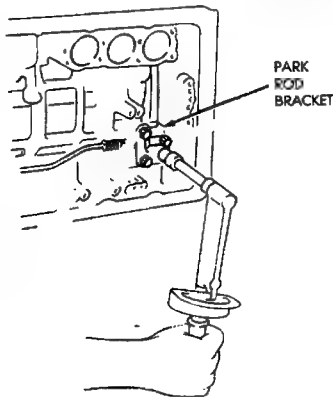
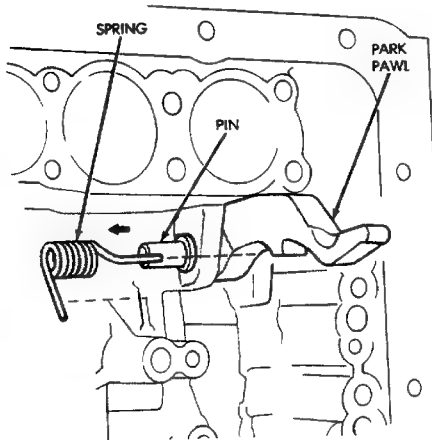

Fig. 36 Removing/Installing Park Rod Bracket
Fig. 38 Removing/Installing Park Pawl-Pin-Spring
- (1) Remove valve body as outlined in this section.
- (2) Remove bolts attaching park rod bracket to case (Fig. 36).
- (5) Remove park pawl, pin and spring (Fig. 38).
- (6) Examine park rod, pawl, pin and spring. Replace any component that is worn or damaged.
- (7) Install pawl in case. Insert pin and install spring.
- (8) Install park rod and bracket (Fig. 36). Tighten bracket bolts to 10 N·m (7 ft-lbs) torque.
- (9) Install valve body, oil screen and oil pan as outlined in this section.